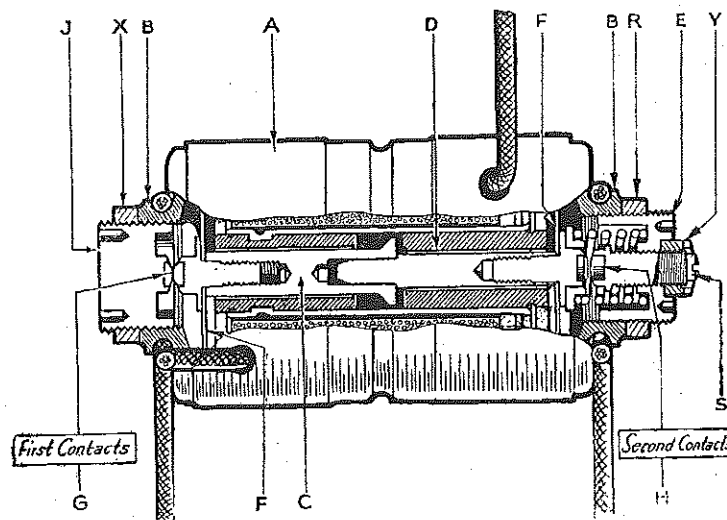

Fig. 46. REGULATOR
The totally enclosed, barrel type regulator is shown in Fig. 46. The main body A and two end caps (B) are permanently fixed in position by spinning over the ends of the body. In the centre is the armature C into which is screwed a brass distance piece D. These two pieces are held in a floating position by attachment to the spring F by means of contact screws G and H. Screwed into the caps at each end are the adjustable contacts J and S which, after setting, are locked in position by means of the locknuts X and R.